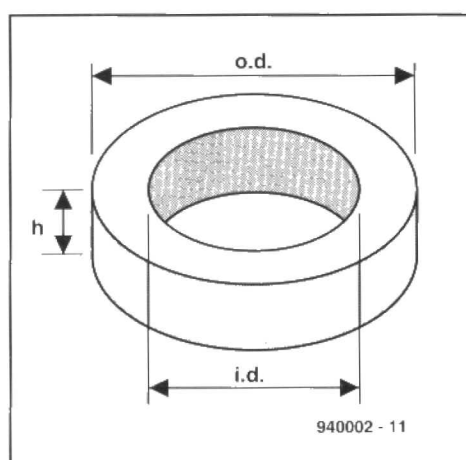

Fig. 1. The toroid coil form.
A lot of electronic construction projects intended for hobbyists and amateur radio operators call for inductors or radio frequency (RF) transformers wound on toroidal cores. A **toroid** is a doughnut shaped object, i.e. a short, flat cylinder (often with rounded edges) that has a hole in the centre (see **Fig. 1**). The toroidal shape is desirable for inductors
amateur radio published projects. Although the units of measure are the English system used in the USA, Canada and formerly in UK, rather than SI units, their use with respect to toroids seems widespread. The type number for any given core will consist of three elements: **xx-yy-zz**. The 'xx' is a one or two letter designation of the general class of material, i.e. powdered iron (xx = 'T') or ferrite (xx = 'TF'). The 'yy' is an rounded off approximation of the outside diameter ('o.d.') in **Fig. 1** of the core in inches; '37' indicates a 0.375-inch (9.53-mm) core, while '50' indicates a 0.50-inch (12.7-mm). The 'zz' indicates the type (mixture) of material. A mixture no. 2 powdered iron core of 0.50 inch diameter would be listed as a T-50-2 core. The cores are colour coded to assist in identification.
The inductance, L , of the toroidal core inductor is a function of the relative permeability of the core material, the number of turns, the inside diameter (i.d.) of the core, the outside diameter (o.d.) of the core, and the height (h) — see **Fig. 1**, and can be approximated by: